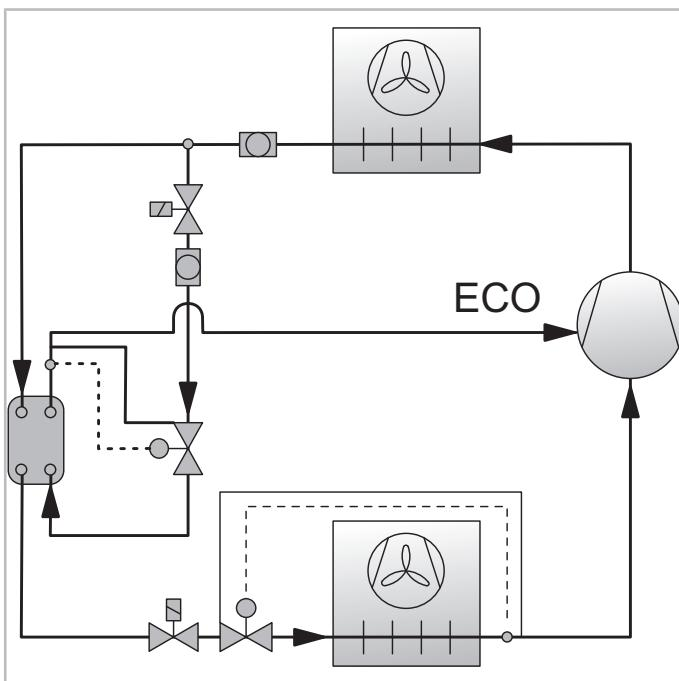

Fig. 6: ECO system with liquid subcooling circuit
- An additional heat exchanger (here: liquid subcooler) is used to subcool the liquid refrigerant by injecting part of the refrigerant from the condenser through an expansion device in counter flow into the subcooler which then evaporates due to heat absorption. The superheated vapour is drawn into the compressor at the ECO connection and mixed with the vapour from the evaporator, which is already slightly compressed (*see figure 6, page 22*).